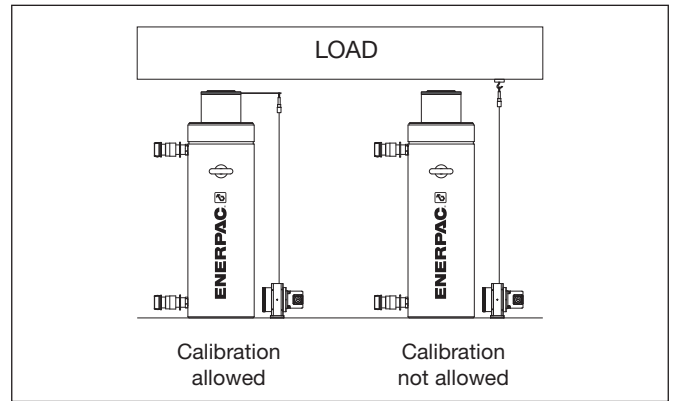

Figure 18: Calibration conditions
- Cylinder calibration selection: The user must set if the calibration is going to be carried out or not, depending on the type of cylinder used. Refer to Figure 18 for details.